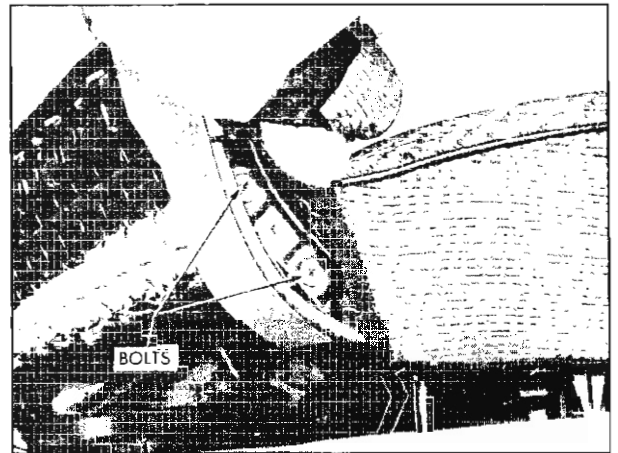

Fig. 17-3 Front Seat Back Attachment
4. At each end of seat remove hog rings securing lower edge of seat back trim from seat bottom frame. Then raise seat back trim to expose bolts securing seat back reinforcement to seat bottom frame. (Fig. 17-3).